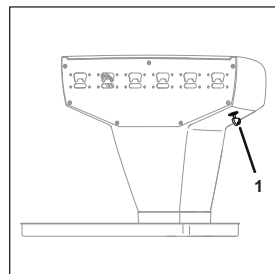

Fig. 6
2. Turn the key switch (Fig. 6/1) to position "I".